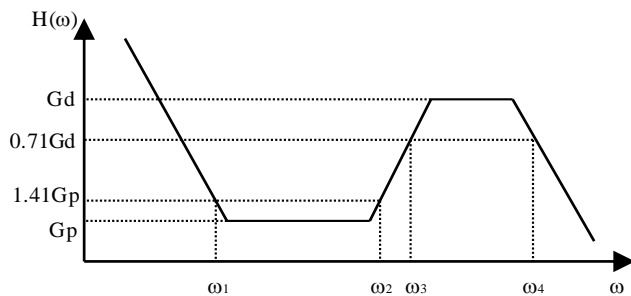

Figure 27. Transfer Function of the Compensation Network
The transfer function of the compensation network, defined as $H(\omega) = IDR(\omega)/TMS(\omega)$, is shown in Figure 27.
- d. $C_D \times R_I$ determines the corner frequency, $\omega_2 = 1/(C_D \times R_I)$, where the differential component starts picking up (see Figure 27), as the frequency goes up.